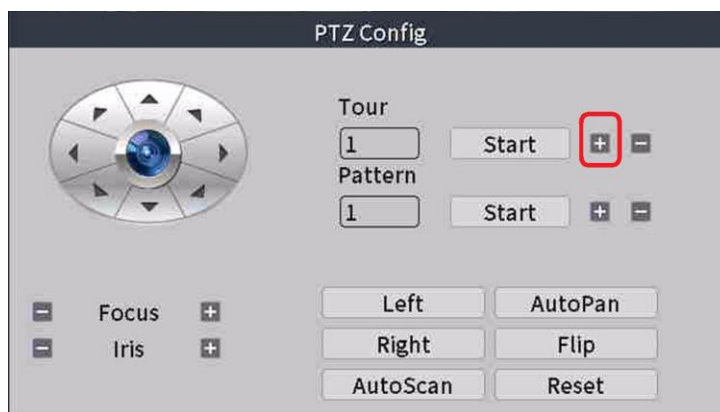

Figure 28. Tour setup
- Step 2: click “+” in the “Tour” section (see Fig. 28);
- **Step 4:** click “Start” in the “Tour” section (see Fig. 28) to call the function. The PTZ Video Camera will start moving in accordance with the specified tour. To stop it, press “Stop”.